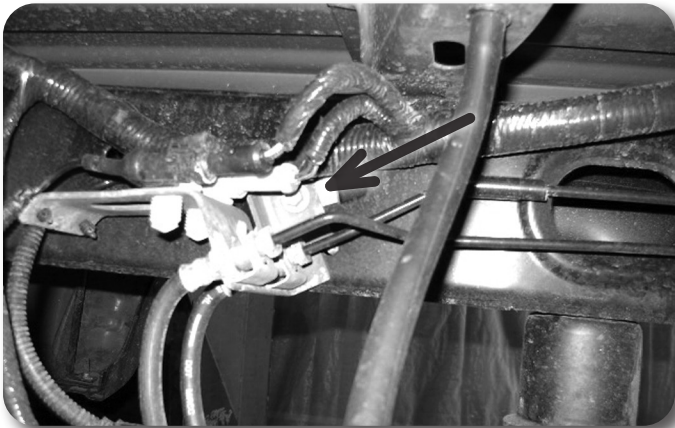

Figure 1
3. Disconnect the rear brake line from the frame. **Figure 1**